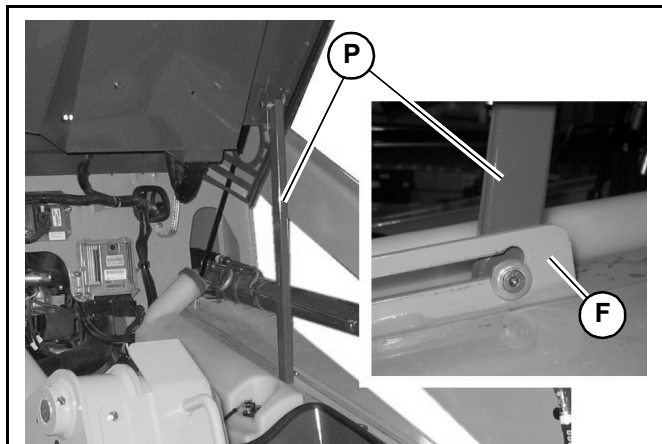

Fig. 119 – ROPS/FOPS Tilt Prop Bar
1. Lift the ROPS/FOPS up slightly until tilt prop bar (P Fig. 119) clears the slot at the back of bracket (F). Push tilt prop bar (P) forward to allow the ROPS/FOPS to tilt forward and down.